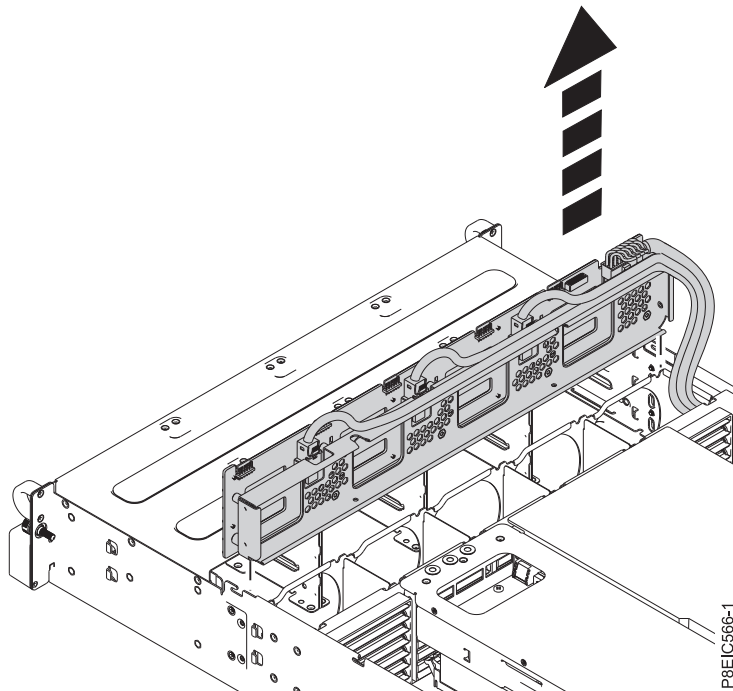

Figure 27. Removing the disk drive backplane
9. Lift the disk drive backplane straight out from the chassis, as shown in Figure 27 on page 25.